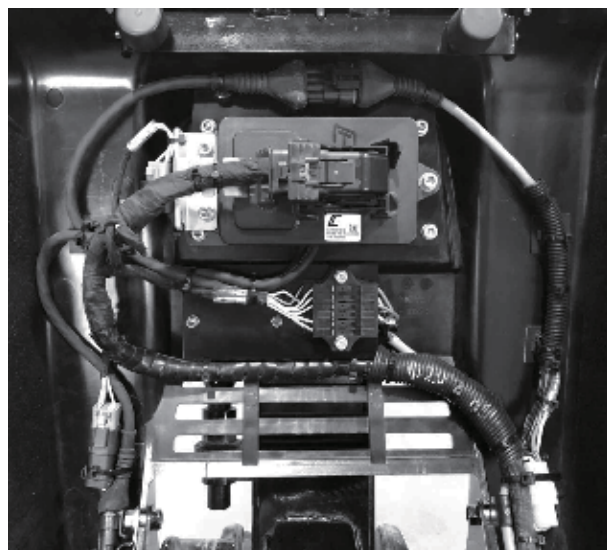

Figure 26. Wiring and Routing
16. Use any remaining cable ties (P/N 506010070) to further secure cables and wires as needed. See Figure 26.